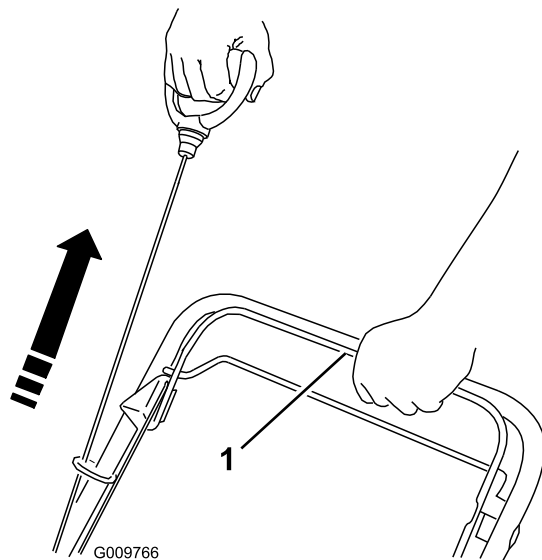
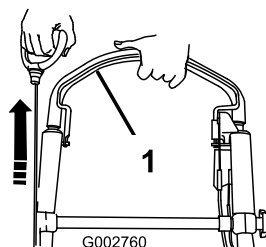

Figure 23
Figure 24
2. Hold the blade-control bar against the handle and pull the recoil starter (Figure 23 or Figure 24).